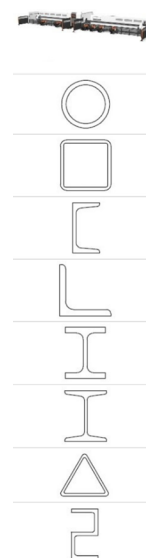

Fig. 6.a.7
- Fig. 6.a.7 shows a number of profiles we can process. Exotic variants can also be machined; however, the supplied drawing must agree exactly with the material.